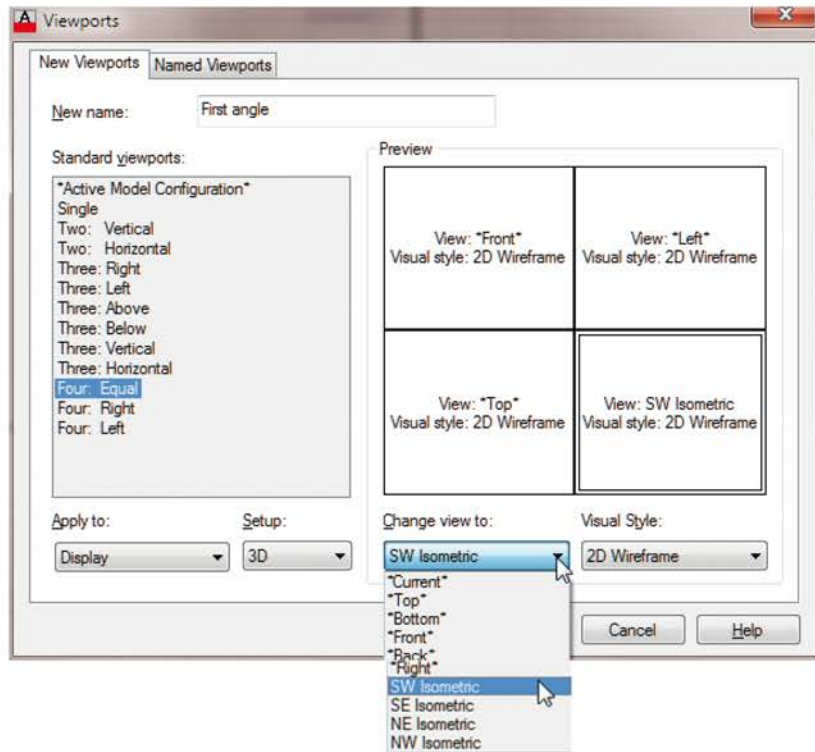
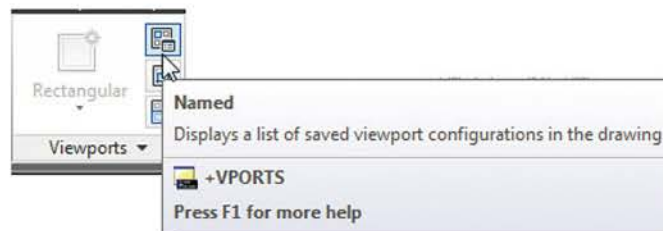

Fig. 10.5 The Viewports dialog set for a 3D Third angle Four: Equal setting
Fig. 10.6 Selecting Named from the Visualize/Viewports panel
If a **Third** layout is needed, it will be necessary to open the **Viewports** dialog (Fig. 10.5) with a *click* on the **Named** icon in the **Visualize/Model Viewports** panel (Fig. 10.6). First, select **Four: Equal** from the **Standard viewports** list; select **3D** from the **Setup** popup menu; *click* in the top right viewport and select **SW Isometric** in the **Change View to:** popup list; enter **Third angle** in the **New name** field. Change the other viewports as shown. *Click* on the dialog's **OK** button, and the AutoCAD drawing area appears in the four-viewport layout.
1. Open a **Four: Equal** viewport setting as shown in Fig. 10.5.
1. Open a **Four: Left** viewport layout from the **Visualize/Viewports** popup list (Fig. 10.5).
1. Open the **Three: Right** viewport layout from the **Visualize/ Viewports** popup list (Fig. 10.5).